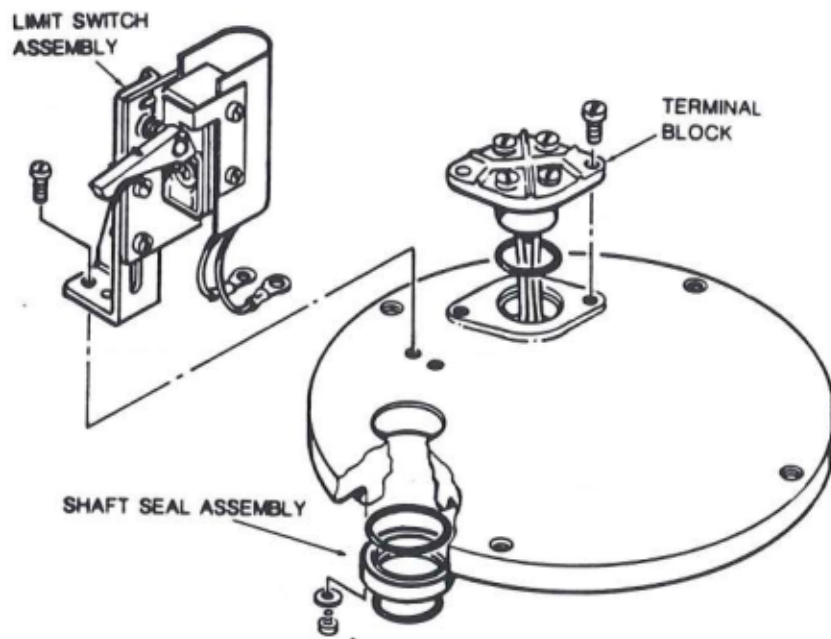

Figure 4-9. Control Plate Assembly
- 3). Remove the two slotted head screws that secure the limit switch (402) to the control plate. Remove the post and limit switch together (see Figure 4-9).